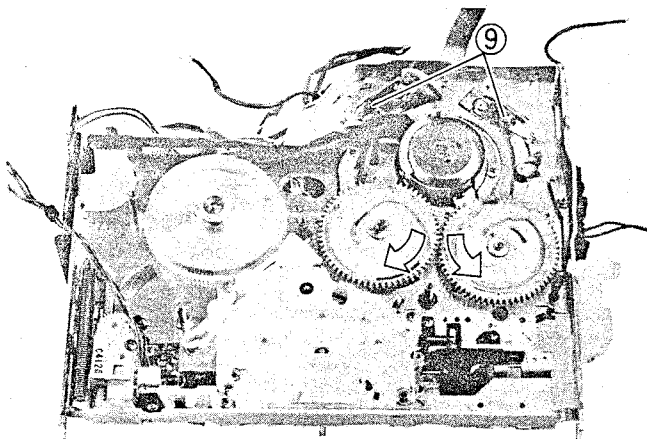

Fig. 2-111 Supply and Take-up Loading Cam Gears Removal
Supply and Take-up Loading Cam Gears Removal (Fig. 2-111, 2-112)
7. Turn the loading cam gear to set the guide roller to the loading state. (See Fig. 2-111)
9. Remove two (2) E rings and pull out the loading cam gear. (See Fig. 2-111)
6. Remove the loading cam gear. (See Fig. 2-111, 2-112)